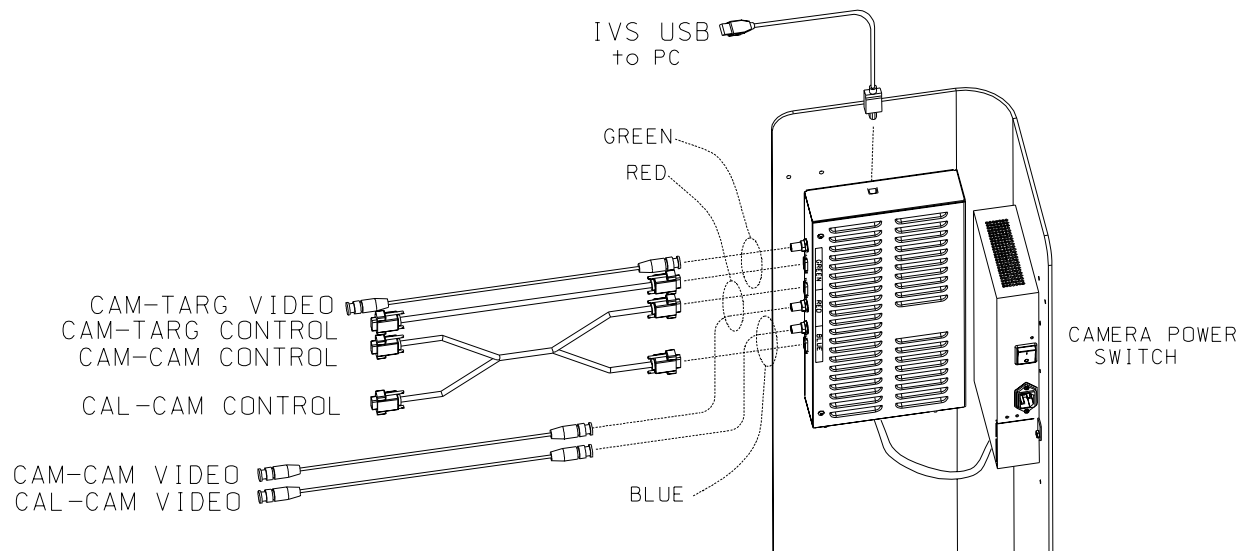

Figure 16
1. Locate the power supply and interface box assemblies. Attach the power supply to left rear Base shield using three 6-32 x 3/8 screws and nuts. Refer to Figure 16 for detail.
2. Attach the IVS interface box to the rear left rear base shield using four 6-32 x 3/8 socket head cap screws. Figure 16.
3. Carefully connect cables from Left Camera Pod to the IVS BOX. Note the position of the color bands, match accordingly. Refer to Figure 16 for IVS detail.
3. Carefully connect cables from Camera Pods to the IVS BOX. The IVS interface box is labeled with color bands as is the camera pod PCBs. The Right camera PCB is identified with a green band, the left camera with red and the calibration camera; blue. Refer to Figure 16 for IVS detail.
4. Connect the IVS USB cable to the console PC USB receptacle. See Figure 3 on page 8 for PC connector detail and Figure 16 on page 19 for connecting to IVS box.